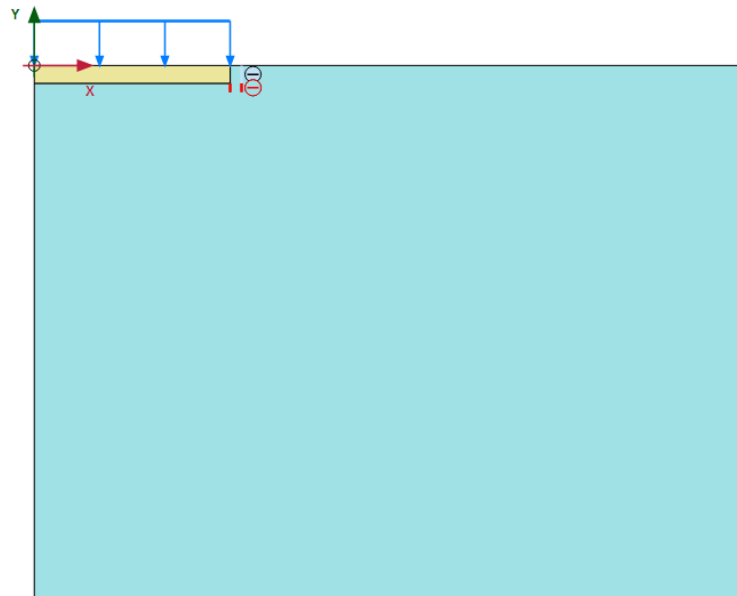

Figure 11-13: Geometry of the model
- 1 Click **Create interface** to create the upper part from (11.0, -1.0) to (11.0, 0.0), Figure 11-13 \(p. 186\).
- 2 Click **Create interface** to create the lower part (between foundation and soil) from (11.0, -1.5) to (11.0, -1.0), Figure 11-13 \(p. 186\).
- 5 For the interface material extended into the soil, full soil strength is applied ($R_{inter} = 1.0$), as implicitly defined in the original clay material **Clay - total load**. Keep the default setting **Material mode**: From adjacent soil. The geometry of the model is shown in Figure 11-13 \(p. 186\):